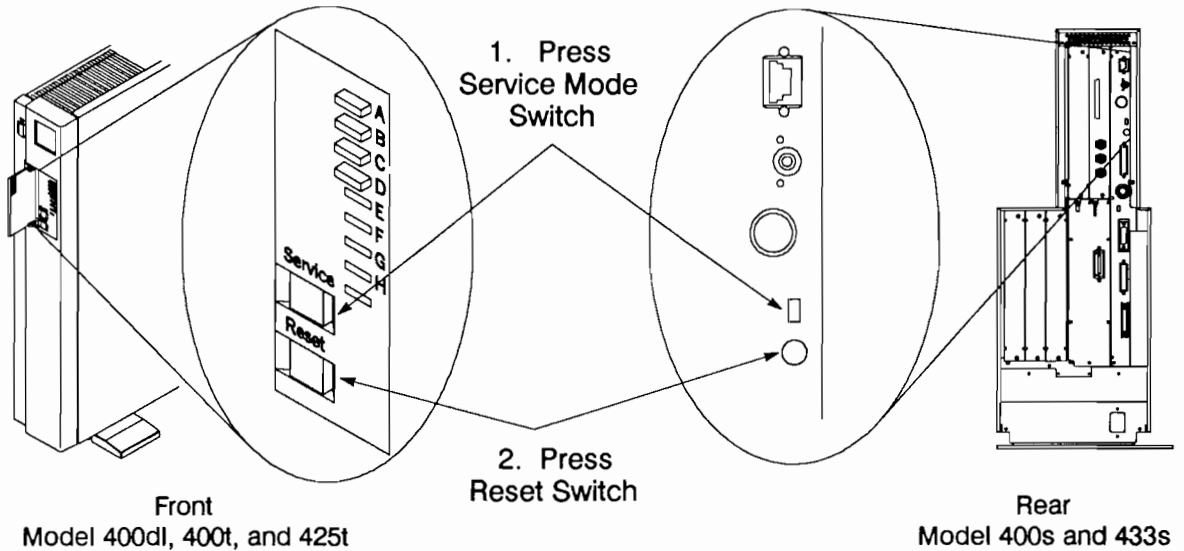

Figure 6-13. Restarting the Operating System
6. To restart the operating system, press the Service mode switch to Normal (Service LED is off) and press the Reset switch as shown in Figure 6-13.